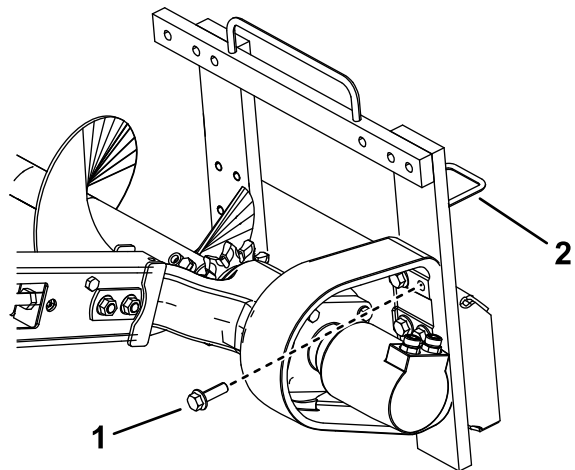

Figure 7
3. Remove the 6 bolts securing the trencher head to the frame (Figure 7).
11. Move the hoses from the hose guide on top of the trencher to the hose guide on the left side (Figure 7).